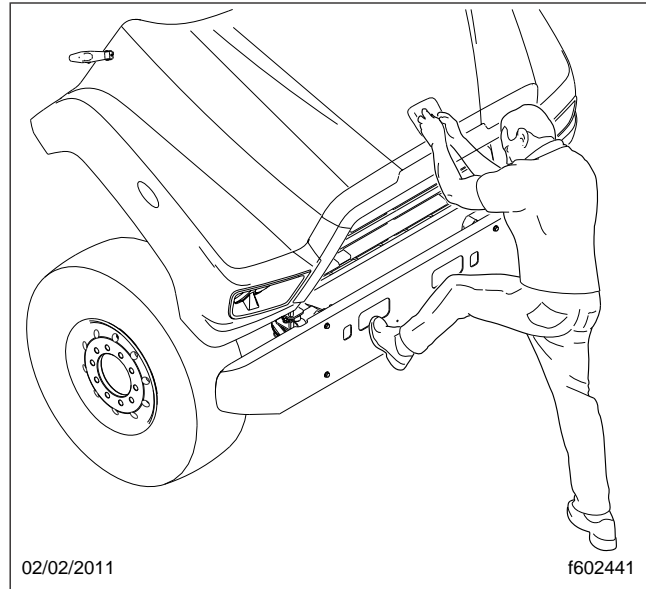

Fig. 2.8, Hood Tilting
3. Standing in front of the hood, raise the rear of the hood upward until it reaches the over-center position (45 degrees from vertical). See Fig. 2.8. Then slowly bring it to a stop.